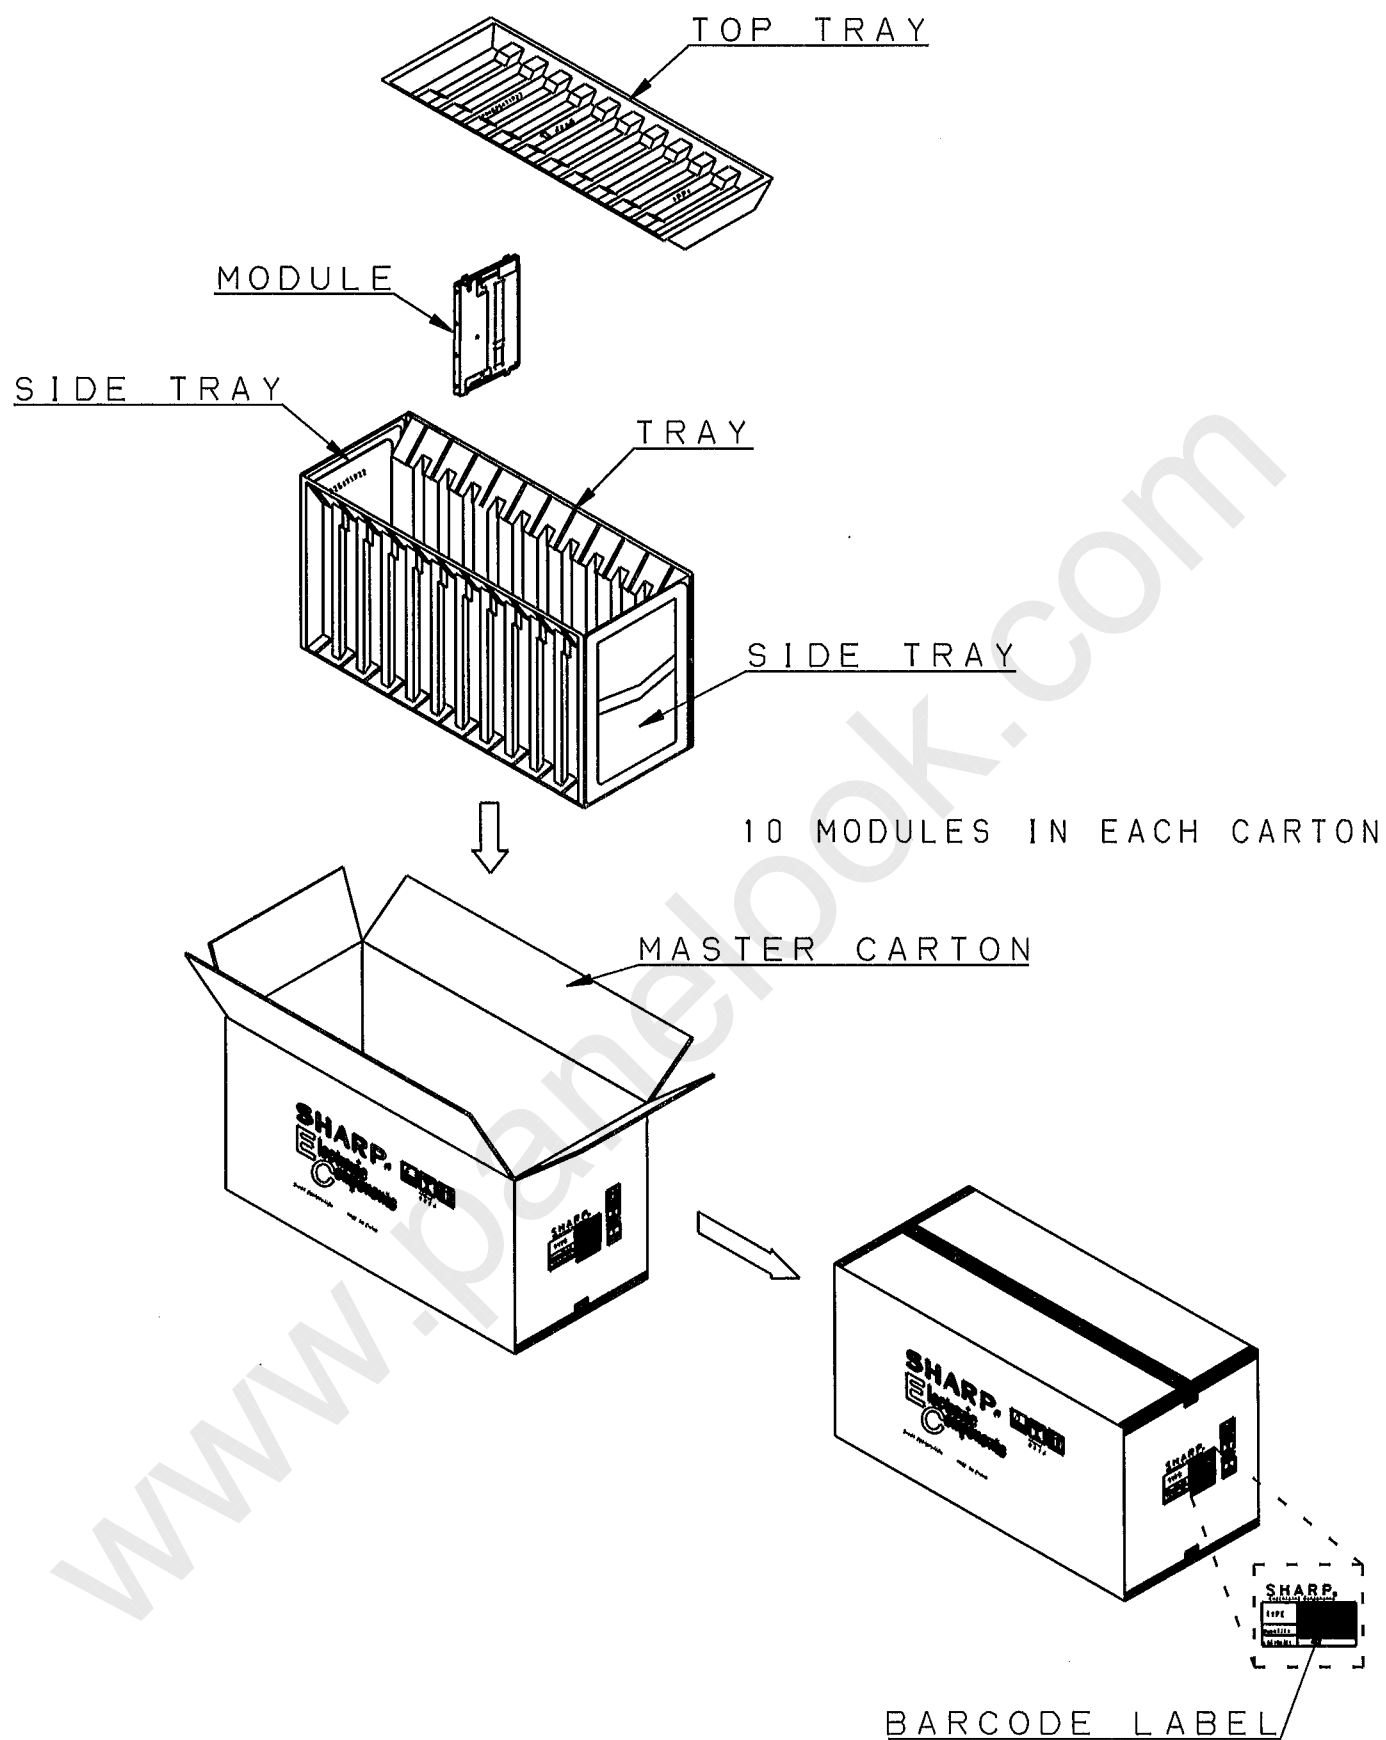

Fig.2 : PACKING FORM
- e) Packing form are shown in Fig 2.